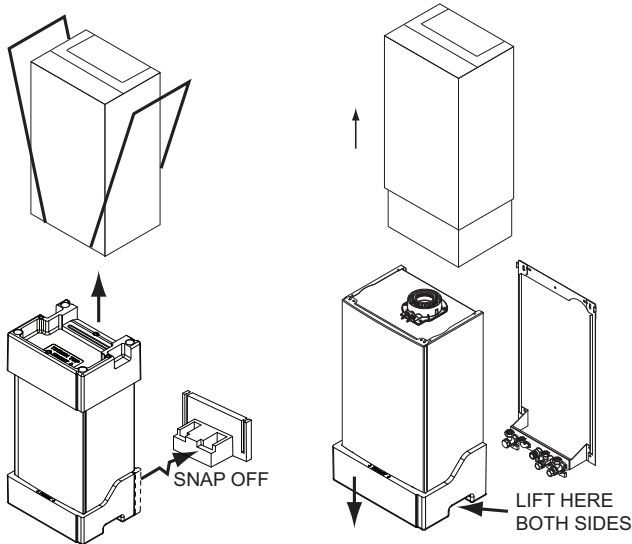

Fig. 23
2. Follow the procedure on the carton to unpack the boiler or see Fig. 23.